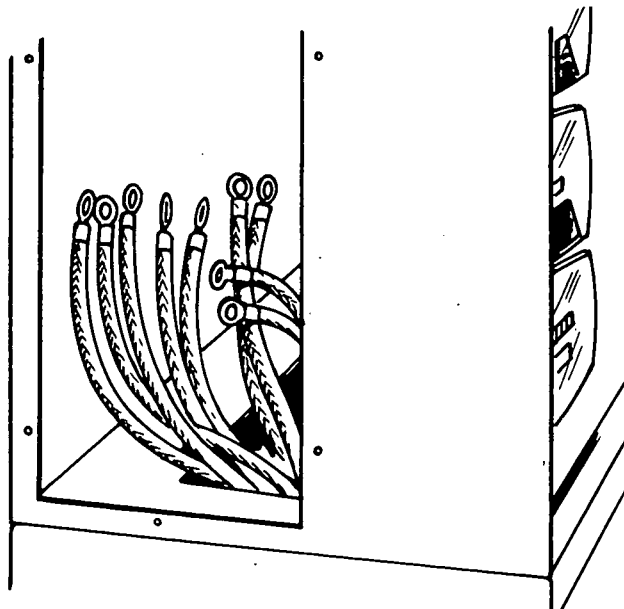

FIGURE 16. CONTROL BOX (SIDE PANEL REMOVED)
1. Remove either right, left or top panel from control box. See Figure 16.